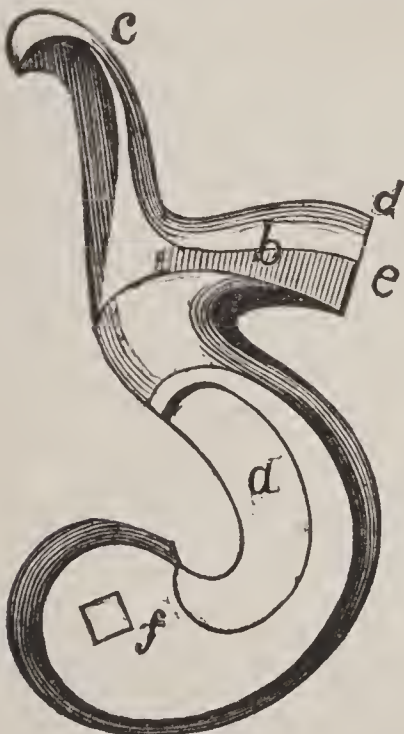

FIGURE 78.
*Nomenclature of the Hammer.*—The names of different parts of the hammer, Fig. 78, are: *a*, the body;